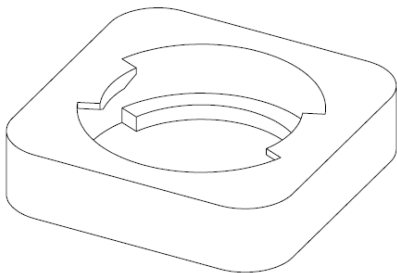

Fig. 8: Symbolic image of the middle tube adapter
1. Assemble the middle tube adapter (see Figure 8: Symbolic image of the middle tube adapter) in the middle tube.